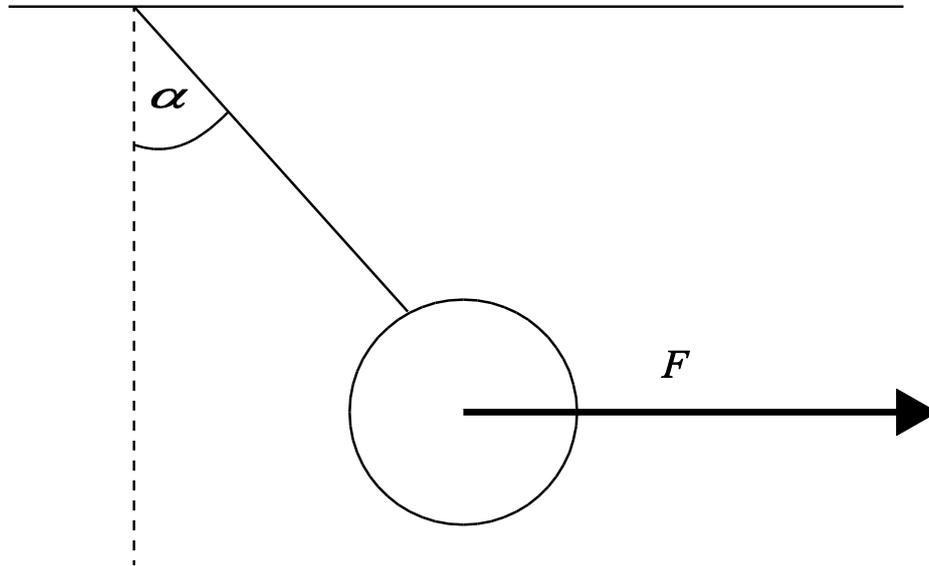

Fig. 1
- (a) A 20kg ball shown in Fig. 1 is suspended in equilibrium from the ceiling on a wire and has a force $F = 80\text{N}$ acting on it in horizontal direction. The wire makes an angle of α with the vertical.